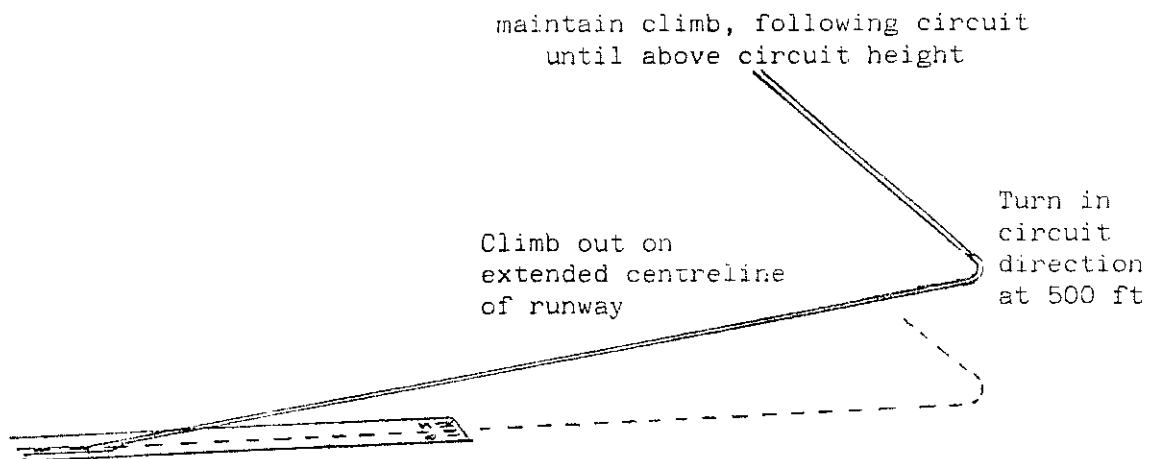

Fig 12.5 Climb out followed by a climbing turn
- a **Climb out followed by climbing turn** Proceed as shown in (Fig 12.5) and described below: